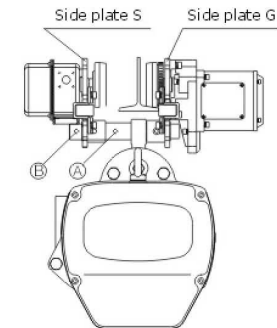

Fig 4.8
2. If it is not available with the first way, please do installation as the followings:(See Fig.4.8)